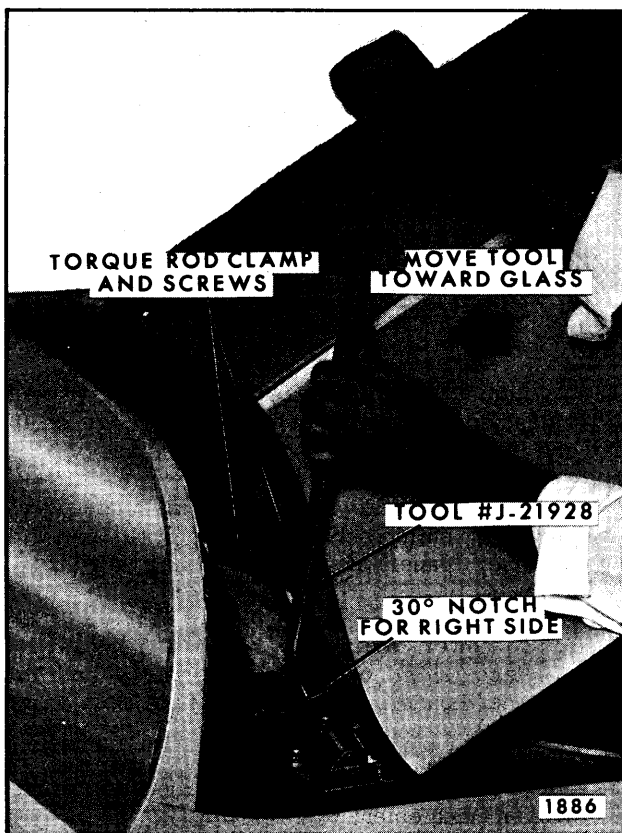

Fig. 5-16—Torque Rod Removal - Right Side
5. Remove torque rod clamp to shroud, located to right of center of shroud (Fig. 5-16).
6. Install tool J 21928 (Fig. 5-16) to lid torque rod on right side of body. Securely grasp tool and move it toward windshield to disengage rod from retaining notch. Carefully disengage tool from rod.